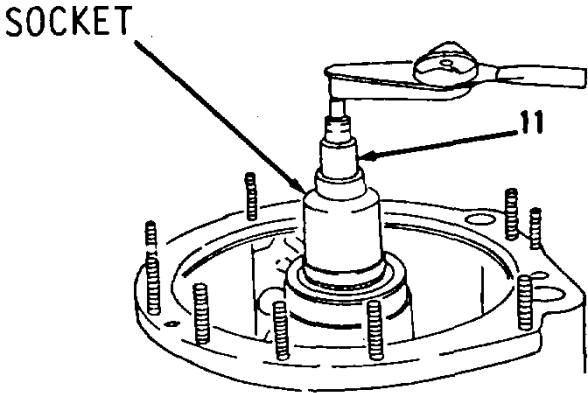

Figure 14-146.
- 19. Insert two .250 inch dowels in splines of shaft (11) 180 degrees apart. Install socket over shaft (11) and two dowels (Figure 14-146).